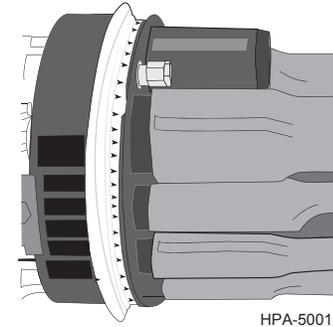

Figure 20
- Step 3:** Stretch the sealing ring over the channel in the end cap (Figure 20).
- Step 4:** Fold the edge of the seal that overlaps the outside of the end cap until the seal seats in the channel as shown in Figure 20.
- Step 5:** Retain a small amount of lubricant for use later. Apply the remaining UCN lubricant to all sides of the sealing ring (Figure 20).